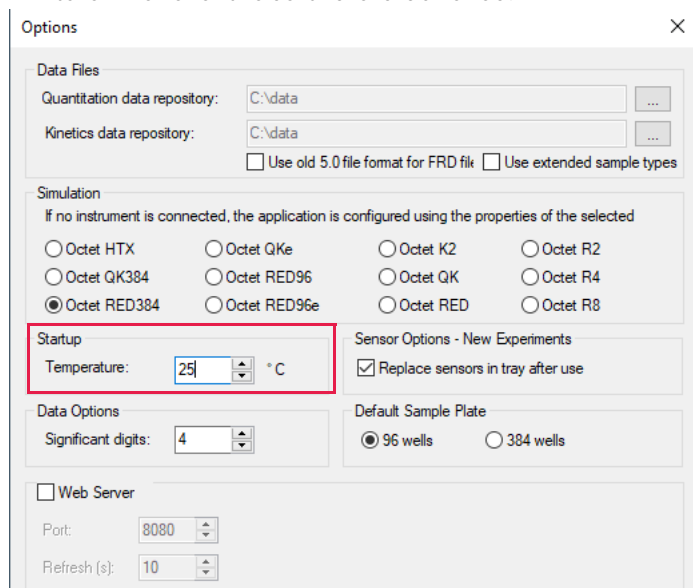

Figure 2-23: Setting the Default Startup Temperature in the Options Dialog Box
- In the **Options** dialog box (Figure 2-23), select a new temperature in the **Startup** box and click **OK**. The plate temperature will then adjust to the new value, and this setting will be used as the new default startup temperature whenever the software is launched.